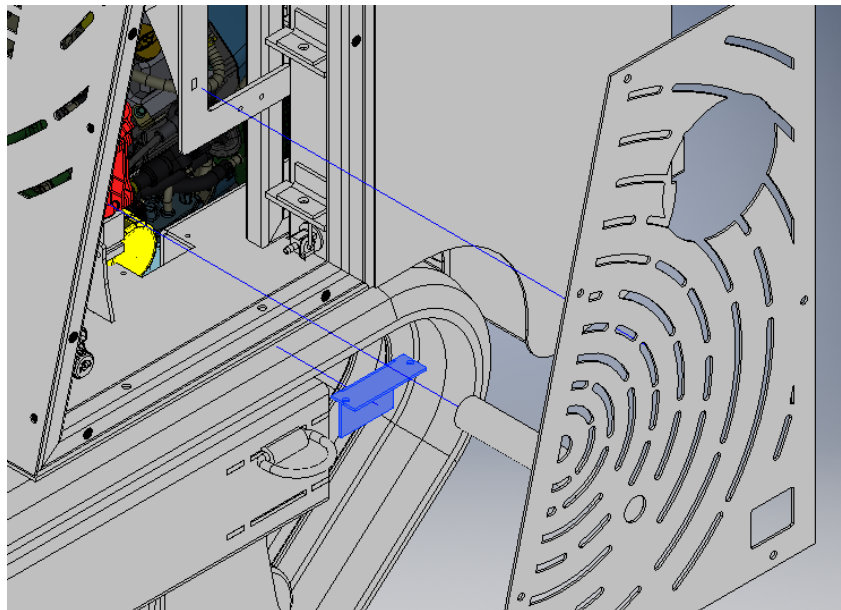

Fig 19
1. Remove the cover plate directly across from the oil filter. If not, you will not have enough room to remove the filter. Refer to engine manual for type of oil filter. **(Fig 19)**